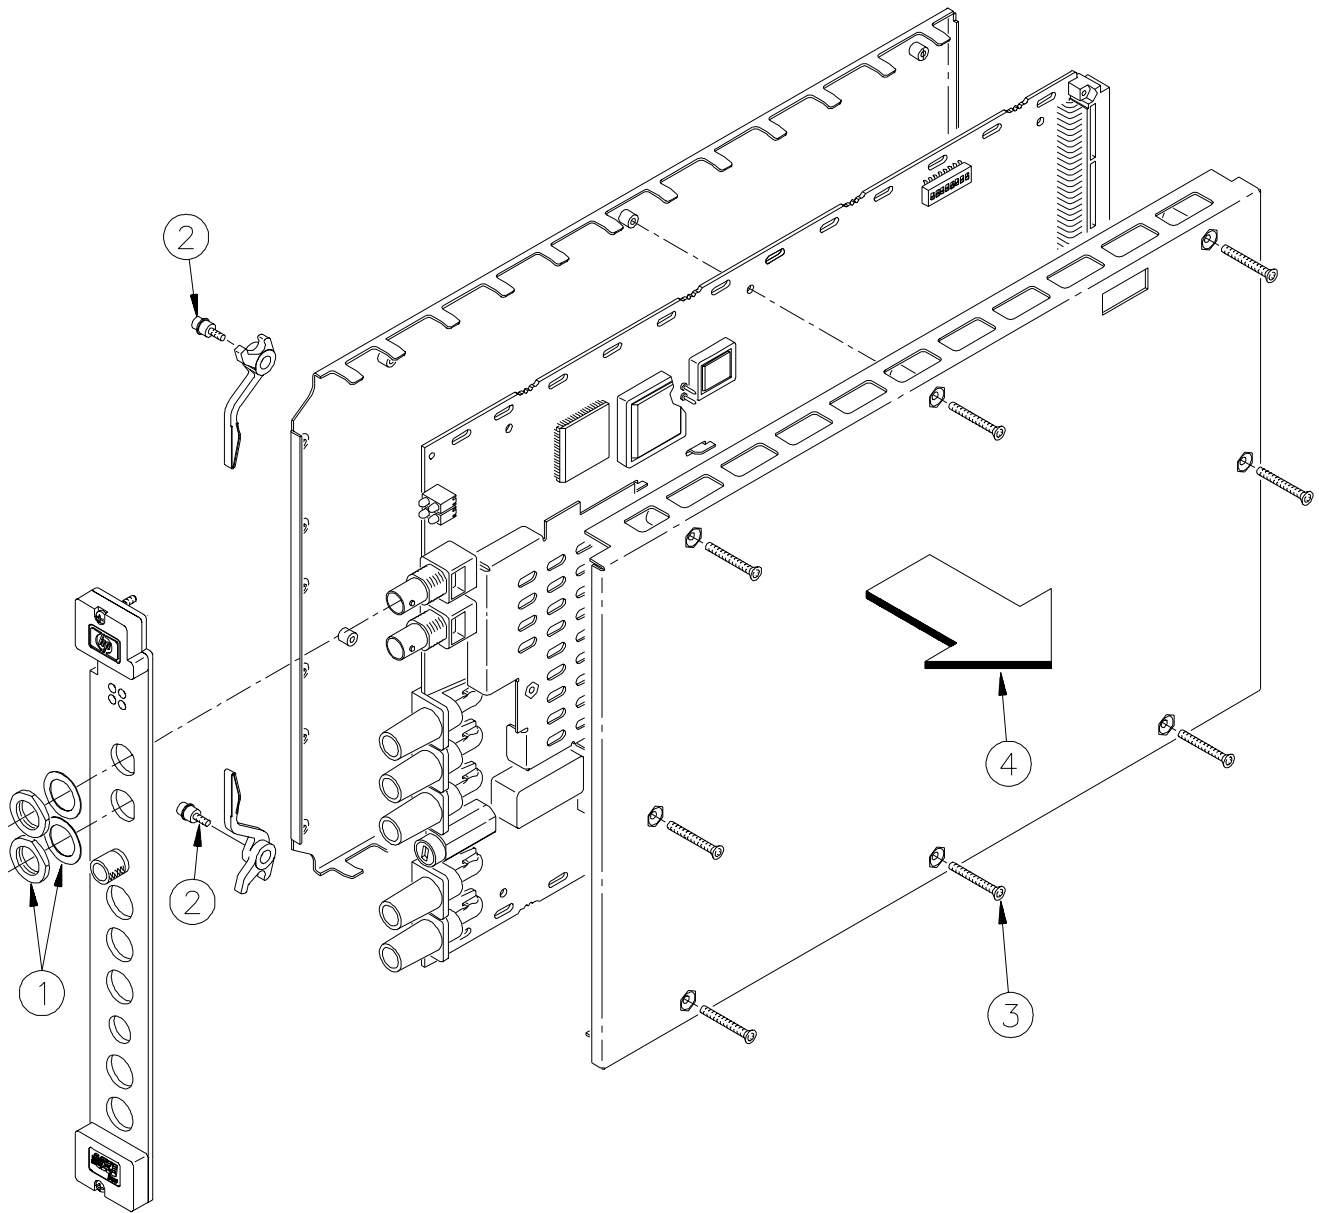

Figure 8-2. Disassembly/Reassembly of Agilent E1412A.
Refer to Figure 8-2 and use the following steps to disassemble the Agilent E1412A. Steps 1, 2, 3 and 4 are called out on the diagram.
Refer to Figure 8-2 and use the following steps to reassemble the Agilent E1412A:
- Step 1** Disassemble the module according to Figure 8-2 and the associated procedure.
- 1** Disassemble the module according to Figure 8-2 and the associated procedure.
- 1 Disassemble the module according to Figure 8-2 and the associated procedure.